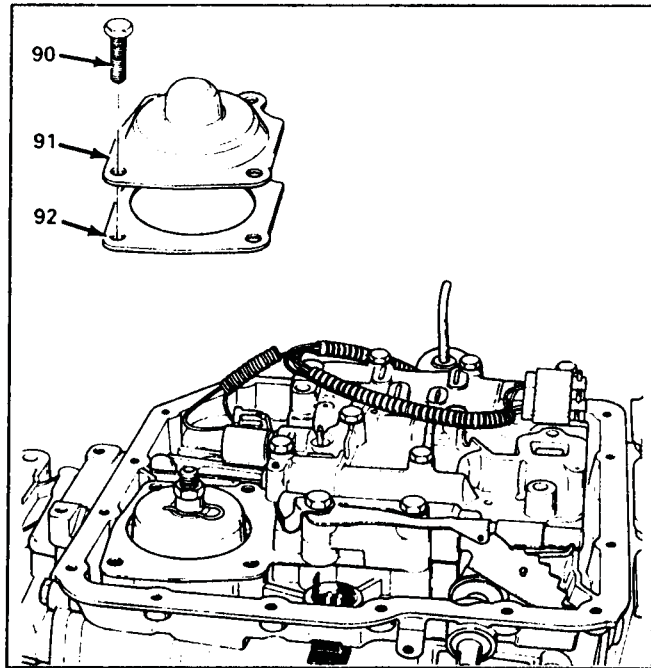

Figure 13
6. Remove the 4 servo cover bolts using a 13mm socket as shown in Figure 13.